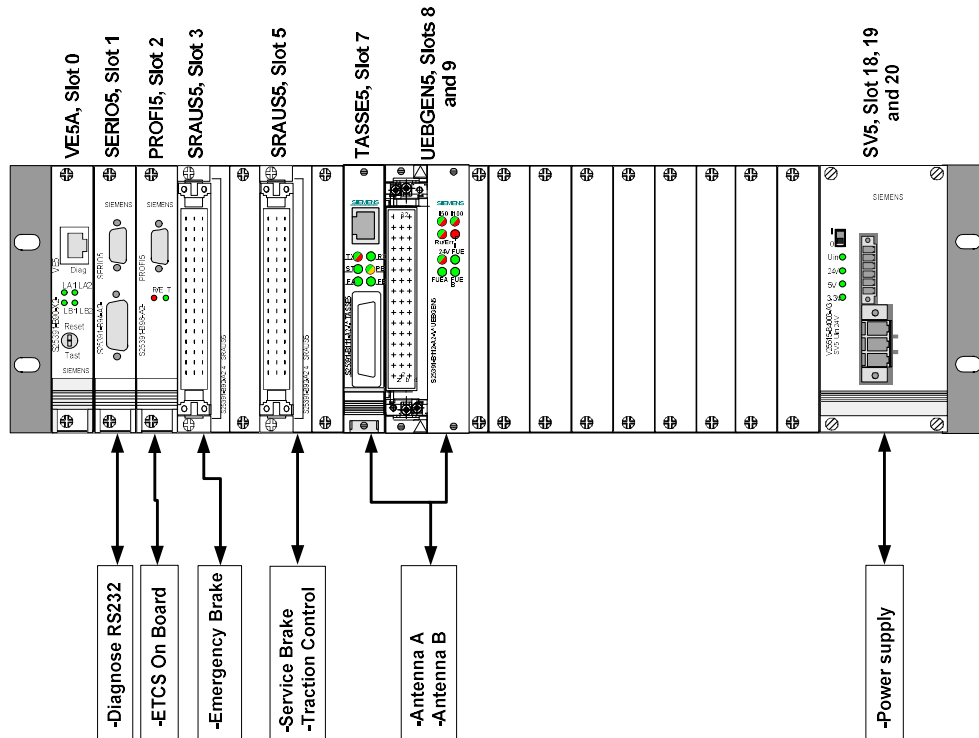

Figure 2 DK-STM sub rack
- DK-STM sub rack, -A1, see Figure 2